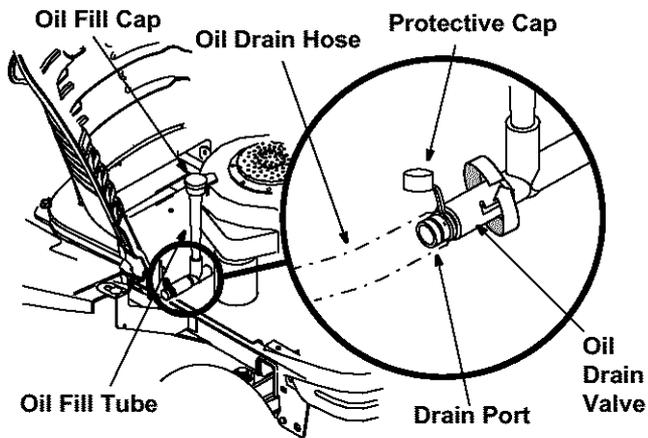

Figure 13
- Unscrew oil fill cap and remove dipstick from the oil fill tube. See Figure 13.
- Pop open the protective cap on the oil drain valve to expose the drain port. See Figure 13.
- Push the oil drain valve in slightly, then rotate counterclockwise and pull outward to begin draining oil. See Figure 13.